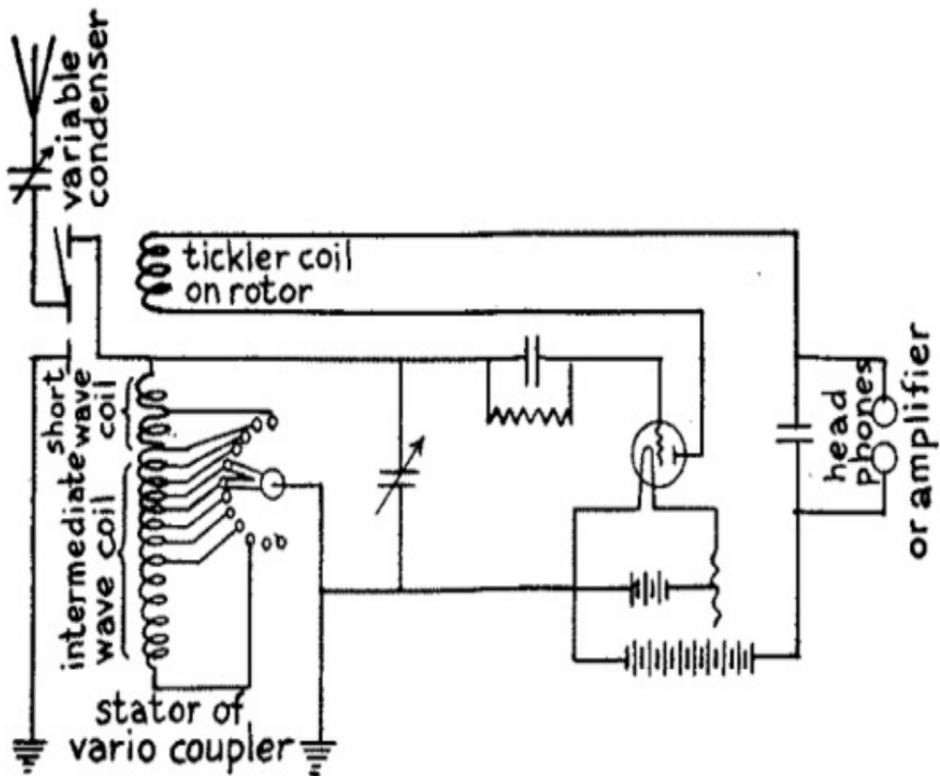

FIG. 58.—Wiring Diagram for Intermediate Wave Receptor with one Variocoupler and 12 section Bank-wound Inductance Coil.
When the variocoupler is adjusted for receiving very long waves the rotor sets at right angles to the stator and, since when it is in this position there is no mutual induction between them, the tickler coil serves as a loading coil for the detector plate oscillation circuit. Inductance coils for short wave lengths are usually wound in single layers but *bank-wound coils*, as they are called are necessary to get compactness where long wave lengths are to be received. By winding inductance coils with two or more layers the highest inductance values can be obtained with the least resistance. A wiring diagram of a multipoint inductance coil is shown in *Fig. 58*. You can buy this intermediate wave set assembled and ready to use or get the parts and connect them up yourself.
*The Parts and How to Connect Them Up.*--For this regenerative intermediate wave set get: (1) one 12 section triple bank-wound inductance coil, (2) one variometer, and (3) all the other parts shown in the diagram Fig. 58 except the variocoupler. First connect the free end of the condenser in the aerial to one of the terminals of the stator of the variocoupler; then connect the other terminal of the stator